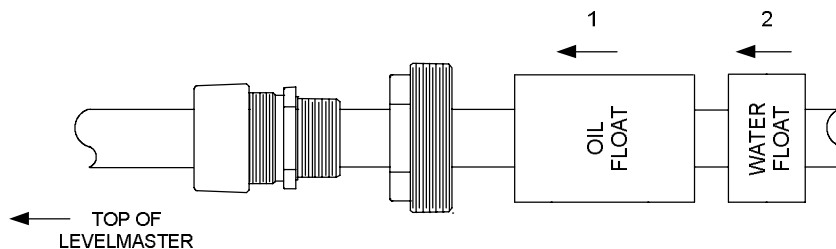

Figure 65: Inserting new floats
6. Slide the new float(s) onto the bottom of the casing. If using two floats, install in the correct order (Figure 65).